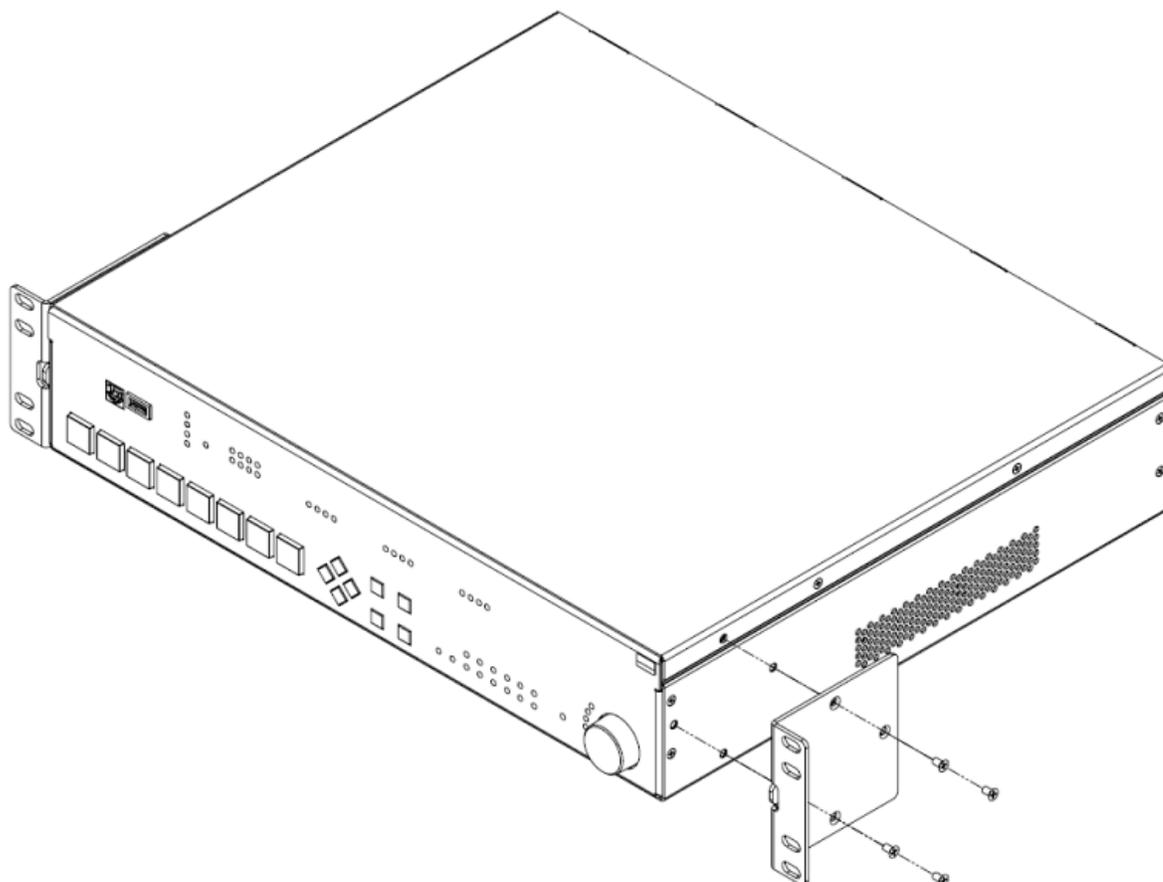

FIG. 4 Rack mounting the NCITE-813AC
2. Position and install the mounting brackets, as shown in FIG. 4, using the supplied mounting screws. FIG. 4 displays how the brackets should be attached to the NCITE-813AC: